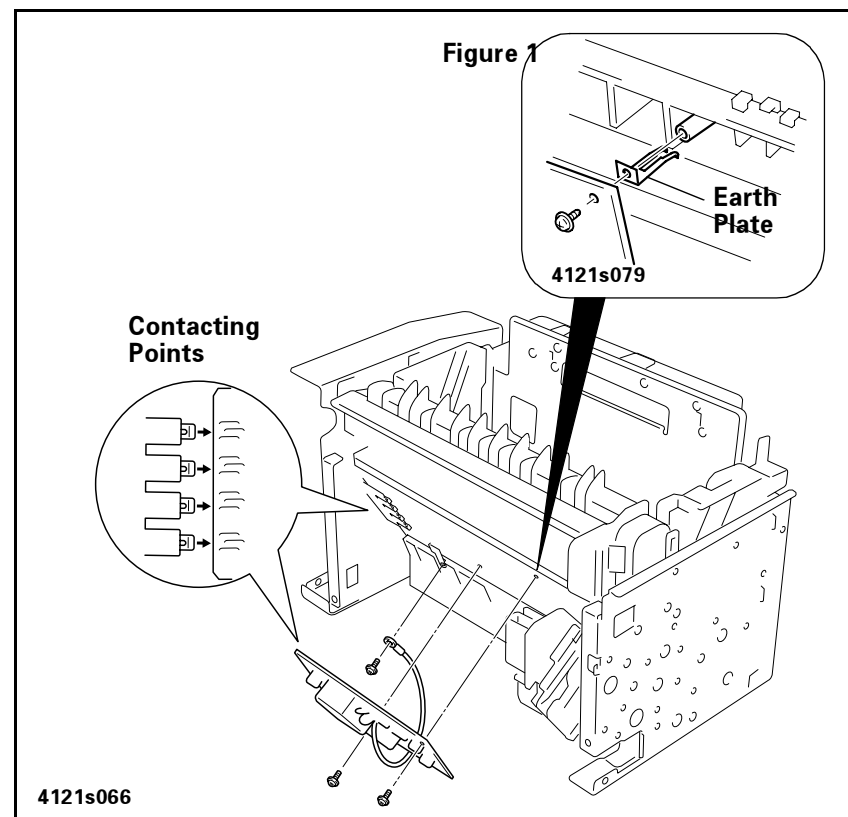

Figure 4-29. High Voltage Unit (HV1) Removal
- Install the earth plate at the rear of the high voltage unit as shown in the Figure 1 in the Figure 4-29.